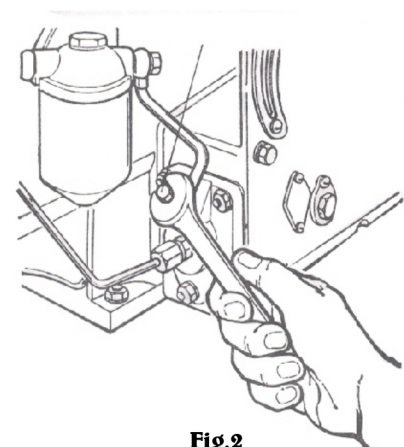

Fig.2
6. If there is any air in the fuel pipe line, loosen the screw on the fuel pipe of the fuel injection pump to let the air out. (Fig.2)